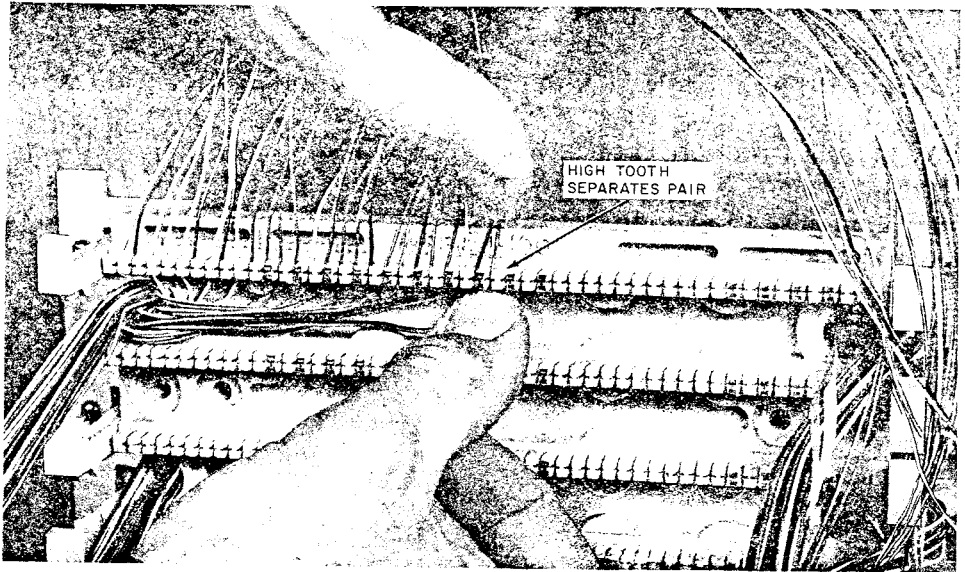

Fig. 10—Placing Conductors in Index Strip
3.09 Place the cable conductors in the index strip following the even-count color code, ie, white-blue, white-orange, etc (Fig. 10). The high tooth on